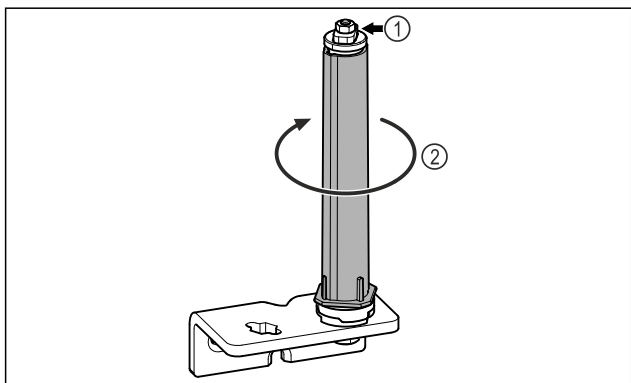

Fig. 29
- ▶ Do not disassemble the door locking system *Fig. 29 (1)*.
- ▶ Turn the locking system *Fig. 29 (2)* until it clicks.